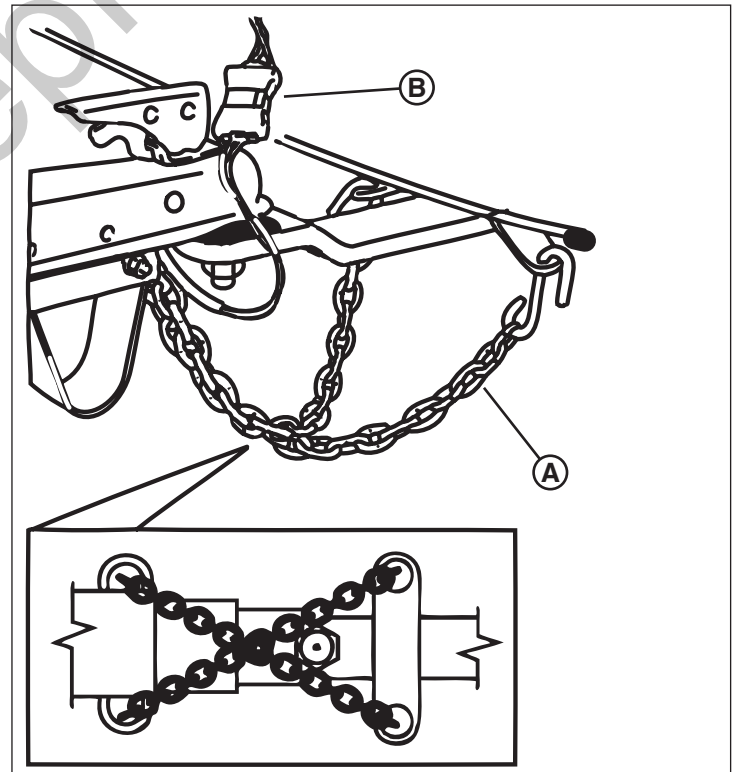

Figure 11
6. Attach the safety chains (A, Figure 11) to the tow vehicle's hitch frame. Cross the chains under the tongue as shown in Figure 11. Leave enough slack in the chains to allow for turns, but not so much that the chains will contact the road surface.
7. Connect the trailer lighting connector to the tow vehicle's connector (B, Figure 11). Make sure the trailer lighting harness has adequate length to prevent disconnection when turning, but not so much length that the harness will contact the road surface. Check the stop, turn signal, tail, side marker and license plate lamps for proper operation.